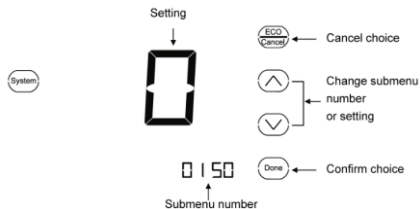

Fig. 22-3.
2. Press  $\uparrow$  or  $\downarrow$  key to cutover submenu, and press  $\text{System}$  key enter submenu. Under submenu use  $\uparrow$  or  $\downarrow$  to set parameters. See Fig. 22-3.